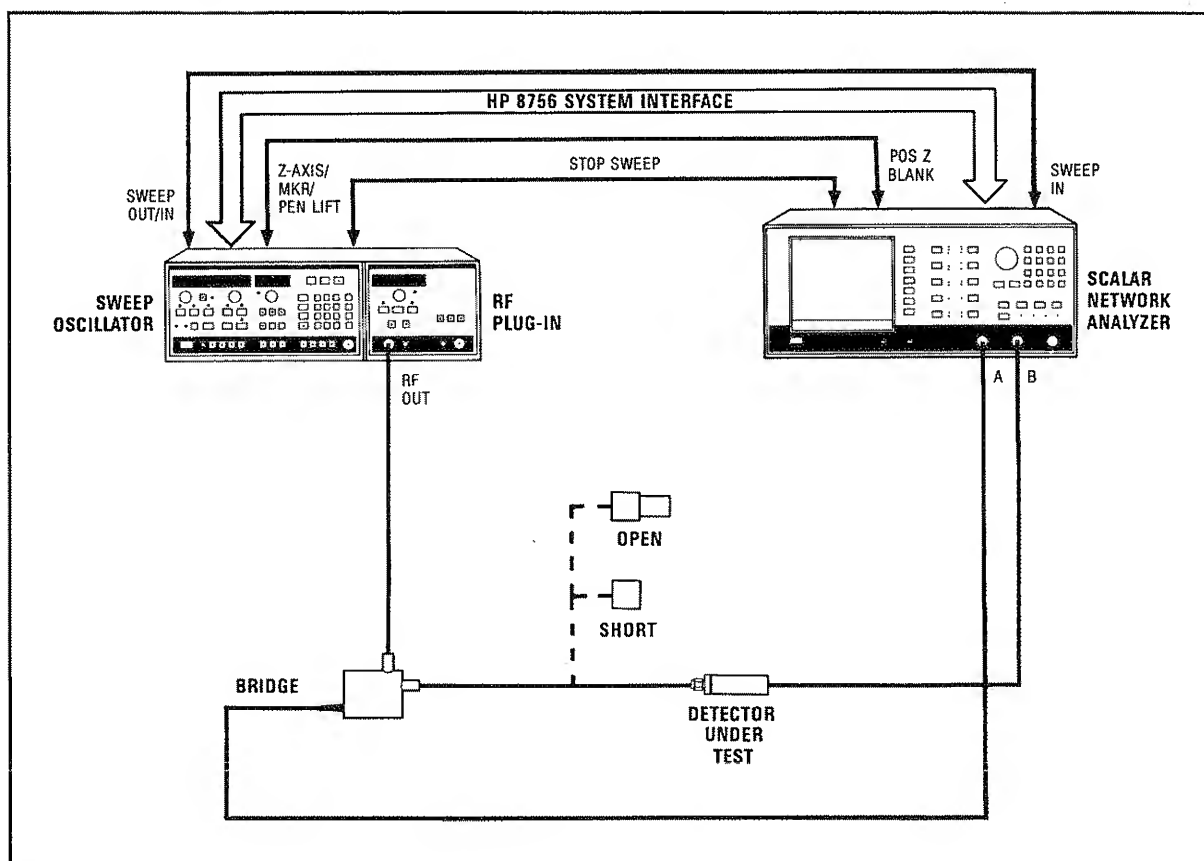

Figure 4. Return Loss Test Setup
1. Set up the equipment as shown in Figure 4, with nothing connected to the bridge **TEST PORT**.